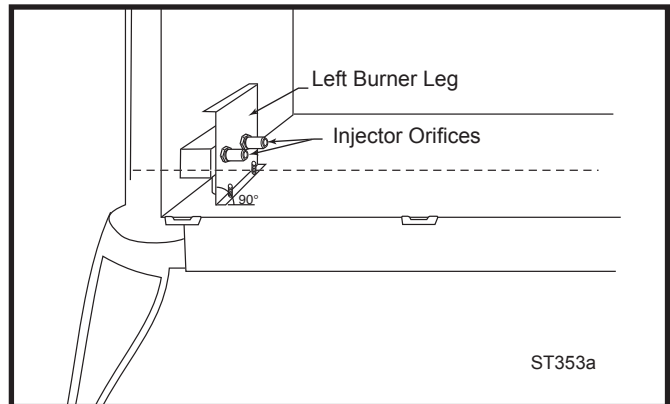

Fig. 18 Be sure injector orifices remain at 90° to the base.
4. Replace burner. Slide the burner in at an angle with left side lower than the right side. Slide the left side onto the injectors, making sure the burner leg remains at a 90° angle to the base. (Fig. 18) Lower the right hand side down in to place. Make sure the burner is as far left as possible and the injector shoulders are inside the burner.